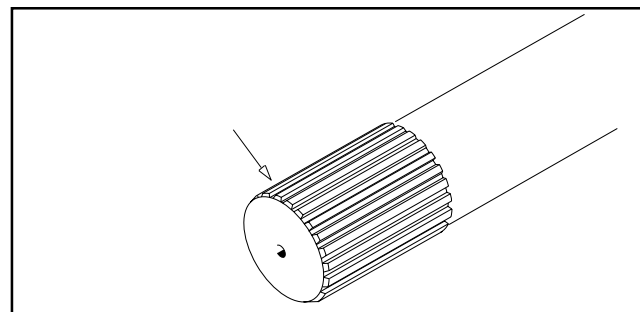

Figure 6
1. Inspect camshaft spline and body for chips and excessive deformation. Replace as necessary. **See Figure 6.**